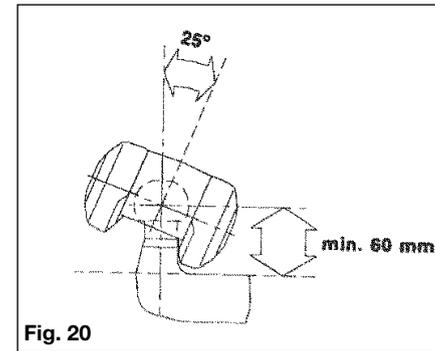

Fig. 20
2. Not suitable for use with overrun devices which can revolve above 25 (Fig. 20).
3. Swan Neck towbars (fixed or detachable) are suitable for use with the AKS 3004 providing they comply to EC Directive 94/20 and have the required minimum 60 mm clearance, measured from the centre of the towball (Fig. 20).